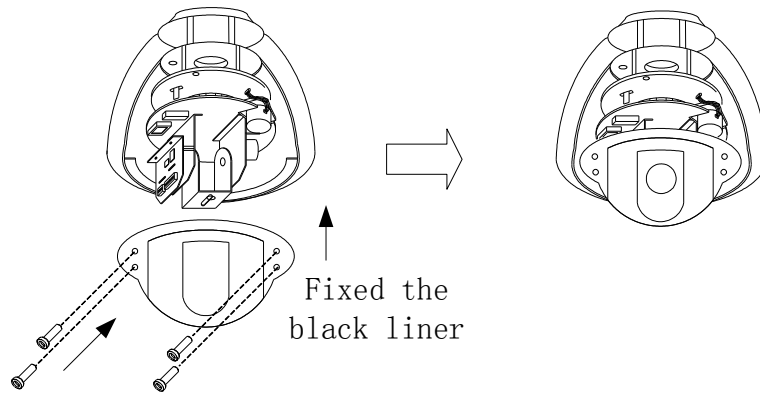

Figure 8
5. Fix the black liner (see Figure 8).